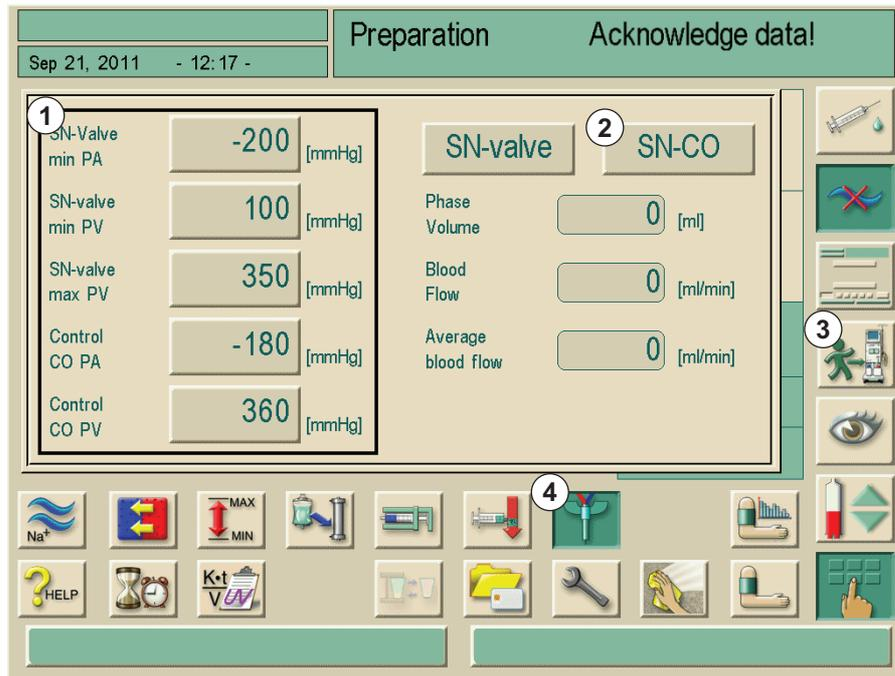

Fig. 10-2 Single-Needle Cross-Over (SNCO)
- Touch field 2 in SNCO window (Fig. 10-2 Single-Needle Cross-Over (SNCO) (165)).
- Disconnect the patient (see chapter 8 Disinfection (121)).